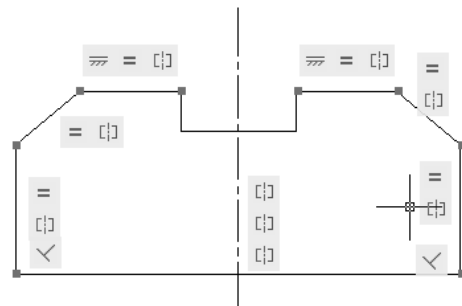

Figure 11-15 Centerline with three symmetric constraints
27. Similarly, apply the symmetric constraints between the two inclined lines and then between two small horizontal lines. The three symmetric constraints applied are shown in Figure 11-15.